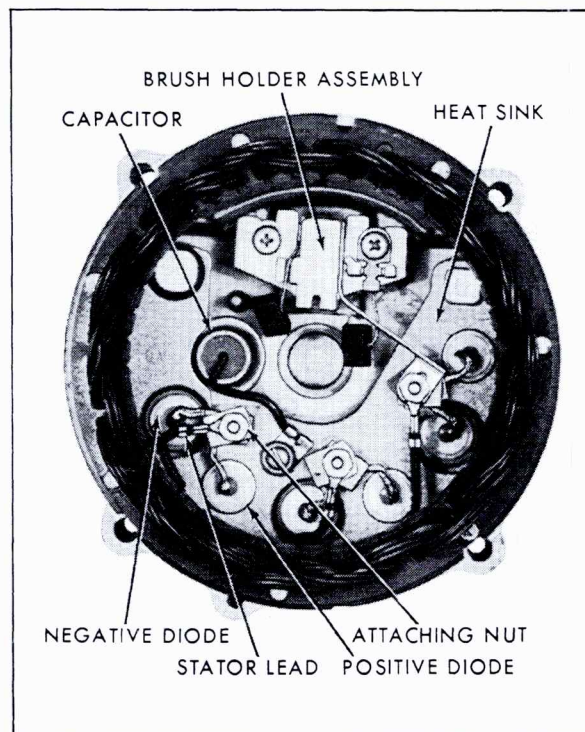

Fig. 6-25 Slip Ring End Frame
8. Remove three nuts and lockwashers that hold diode and stator leads to heat sink, disconnect leads and separate stator from slip ring end frame, Fig. 6-25.